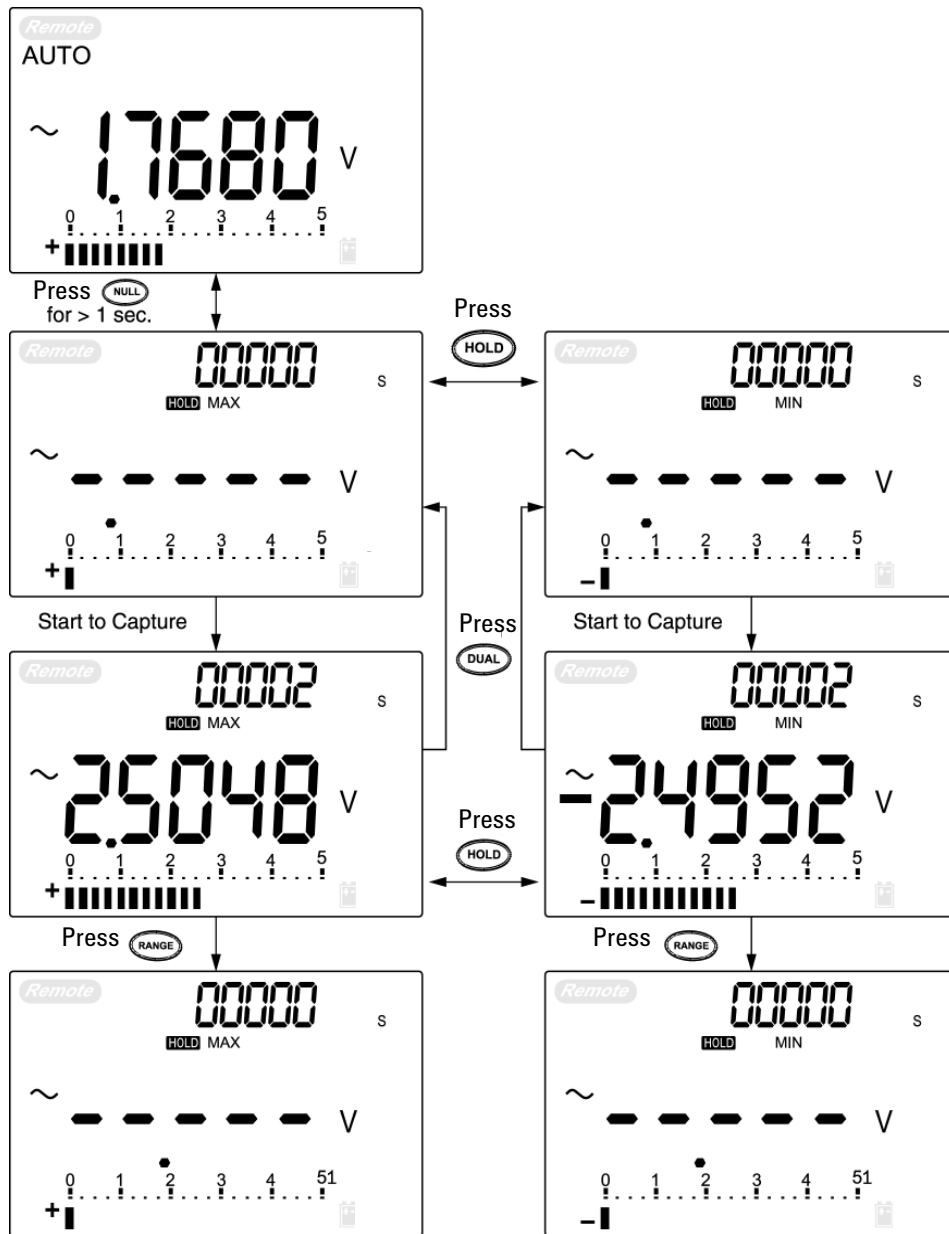

Figure 3-6 1 ms peak hold mode operation
- 4 According to the measurements shown in Figure 3-6 on page 60, the crest Factor will be $2.5048/1.768 = 1.416$.